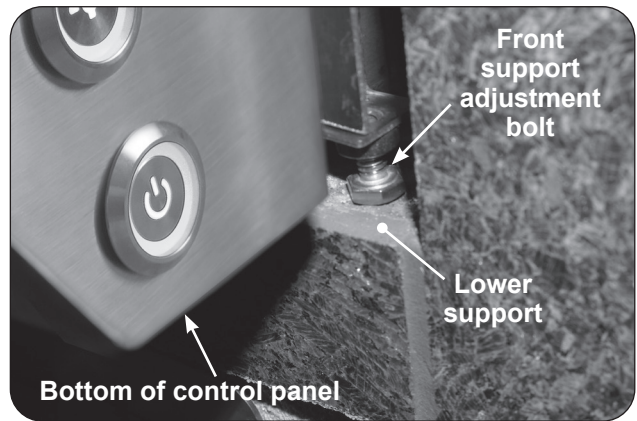

Fig. 30-1 Front support adjustment bolts
3. Rotate the front support adjustment bolts (up or down) until the grill hanger rests flush on the countertop, AND, the adjustment bolts are touching the supporting structure found at the bottom of the cutout (lower support). Use a 7/16" open-end wrench as needed. See Fig. 30-1.